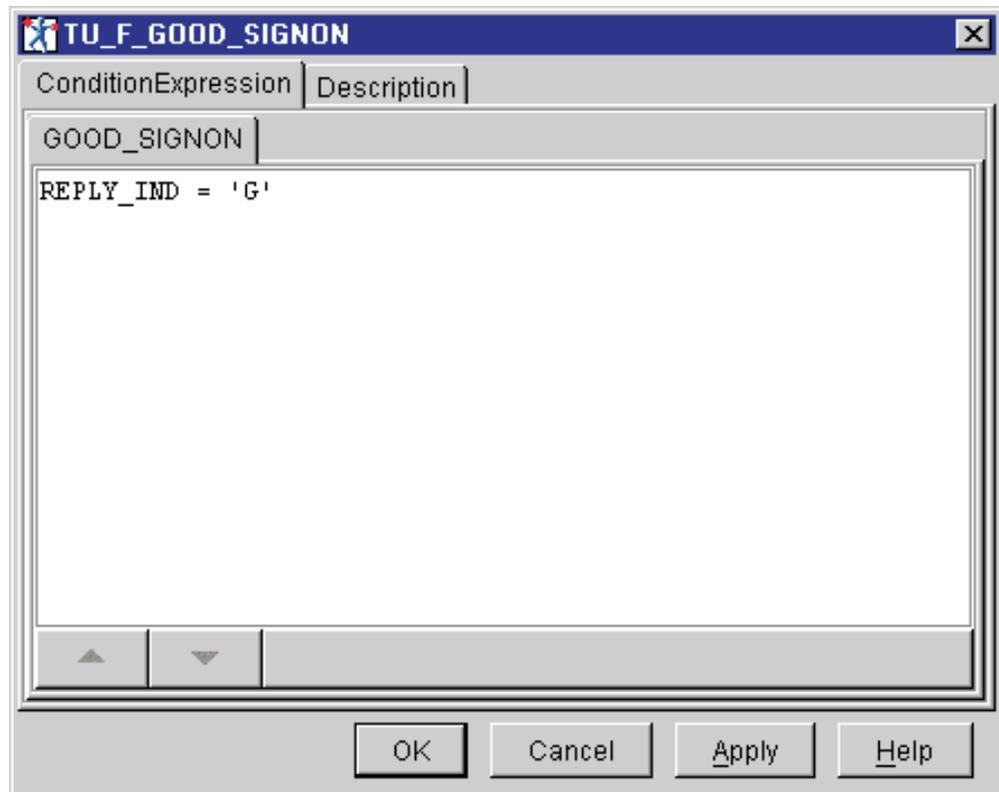

Figure 160. Code for the GOOD\_SIGNON Terminal
- iv) You should add the code shown in Figure 160 on page 204 for the GOOD\_SIGNON terminal test condition. The letter 'G' for the REPLY\_IND field indicates that a valid signon has occurred.